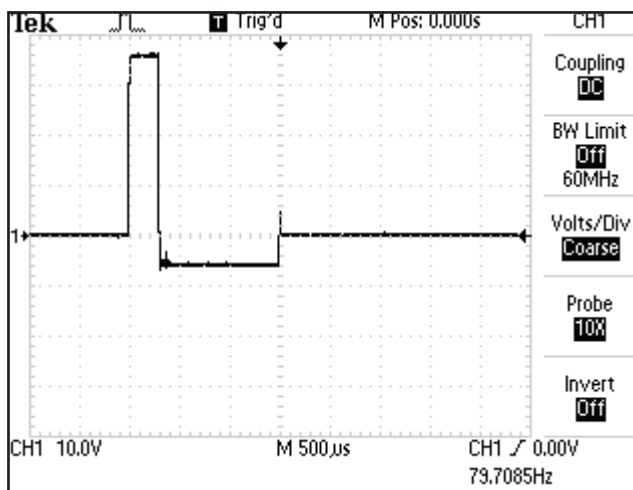

FIGURE 4.3
B. TENS- Asymmetrical Biphasic- Figure 4.3 (Vectra Genisys)
- Output Intensity.....0-110 mA (CC)